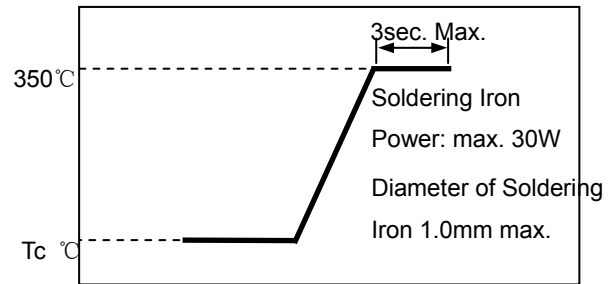

Fig. 11.2-1
- Please refer to Fig. 11.2-1.